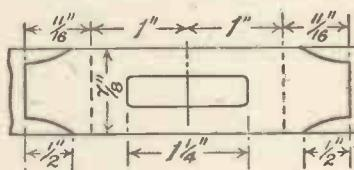

Fig. 7.—Showing Bearing-Bracket marked out and bent to shape.
**Bearing-Bracket.**—This can be marked out on the piece of  $\frac{1}{8}$ -in. wide strip brass to the dimensions given in Fig. 7. After chipping away the four corners with hammer and chisel, file the curved parts to shape with a half-round file, and then drill and file out the rectangular hole in the middle. Now bend the bracket to shape so that it fits on the boiler shell nicely and the turned-up ends are quite parallel with each other. The bracket can now be soldered in position on top of the boiler after making sure that the turned-up ends are quite vertical when the boiler is placed in position on the firebox.